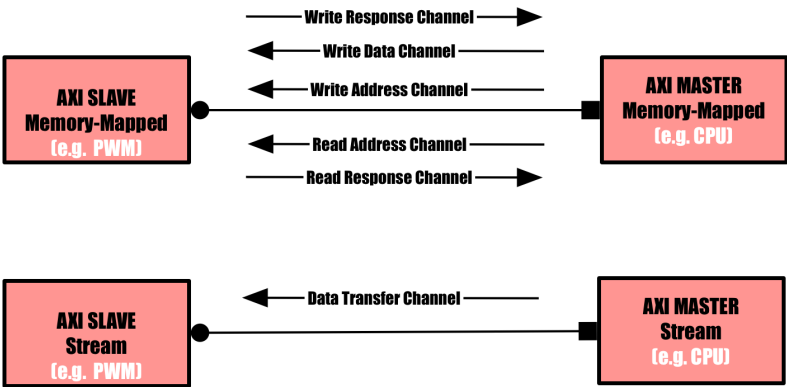

Figure 2: AXI Memory Mapped and AXI Stream architecture
As we have talked about customization per application, you can use two types of advanced eXtensible interfaces (AXIs): AXI Stream and AXI Memory Mapped (MM). Basically, a simple application such as computation of some stream of data can make use of AXI Stream, while a more complex one (e.g. writing on a memory) might need access to addresses (so AXI MM comes in place). Their diagrams can be seen in Figure 2. In our case, we will use an AXI Memory Mapped architecture, and PWM (Pulse Width Modulation) slave module to control LEDs and a buzzer.
PWM_v1_0_S00_AXI.vhd, you will see the registers specific to the AXI-Memory Map architecture (Figure 2). In addition, the user can add its own logic and signals. Thus, you can see the implementation of PWM outlined by the following comments: